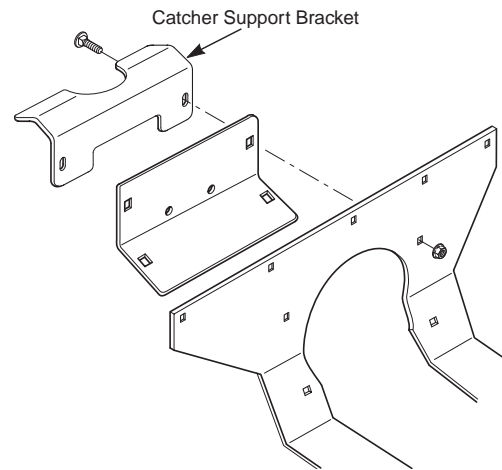

FIGURE 3-5
16. Install the catcher support bracket onto the rear of the machine and secure with 5/16-18 x 1" carriage bolts (p/n 04003-04) and 5/16-18 serrated flange nuts (p/n 04019-03) See Figure 3-5.